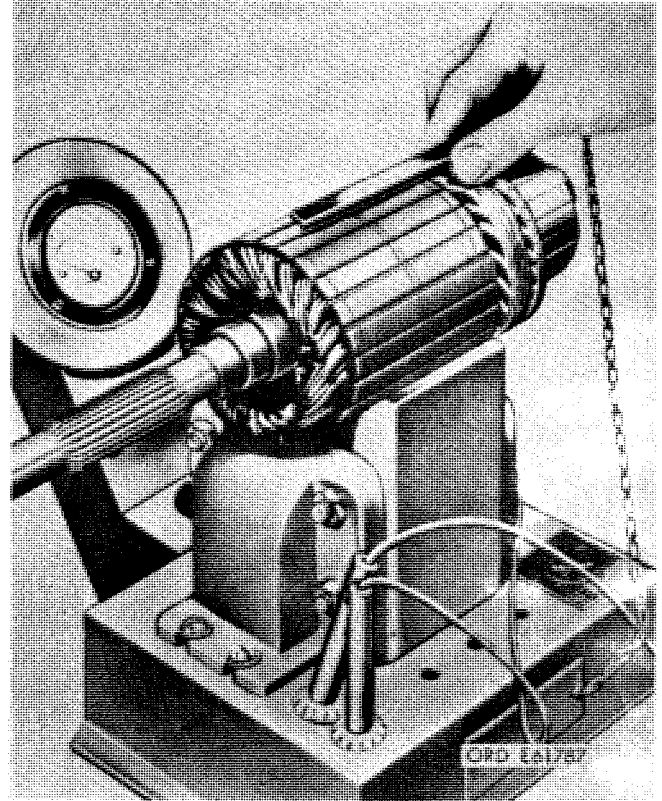

Figure 3-27. Testing armature for short circuits.
(3) Inspect armature for short circuits with a growler. Place armature in growler and hold a thin strip of steel, such as a hacksaw blade, about 1/32 to 1/16-inch away from armature core as shown in figure 3-27. While holding steel strip in position, rotate armature slowly in growler. A short circuit will pull the steep strip tightly against armature core and cause strip to vibrate. If a short circuit is found, starter must be replaced.